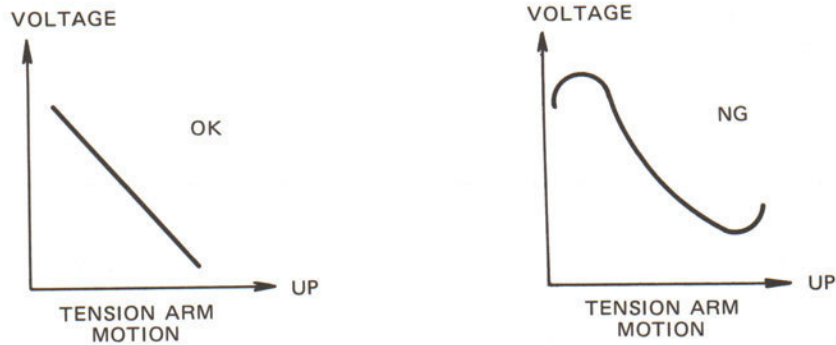

Figure 4-9 Tension Sensor Voltage Adjustment
- (5) Connect the DC Voltmeter to CP1 (Supply) and CP11 (Ground) on the Reel Control PCB.
- (6) Slowly move the Supply Tension Arm from the bottom to the top of its travel while observing the voltage on the DC Voltmeter. The voltage will decrease as the Tension Arm is raised. If the voltage reaches its minimum before the Tension Arm reaches its upper limit, then the Tension Sensor position must be adjusted. Repeat the observation and adjustment until the Sensor Voltage is linear with Tension Arm travel. Refer to Figure 4-9.